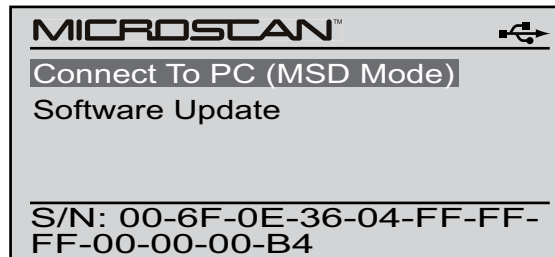

Figure 4-20 Connect to PC screen
3. Highlight **Connect to PC** on the MICROSCAN service menu (Figure 4-20).